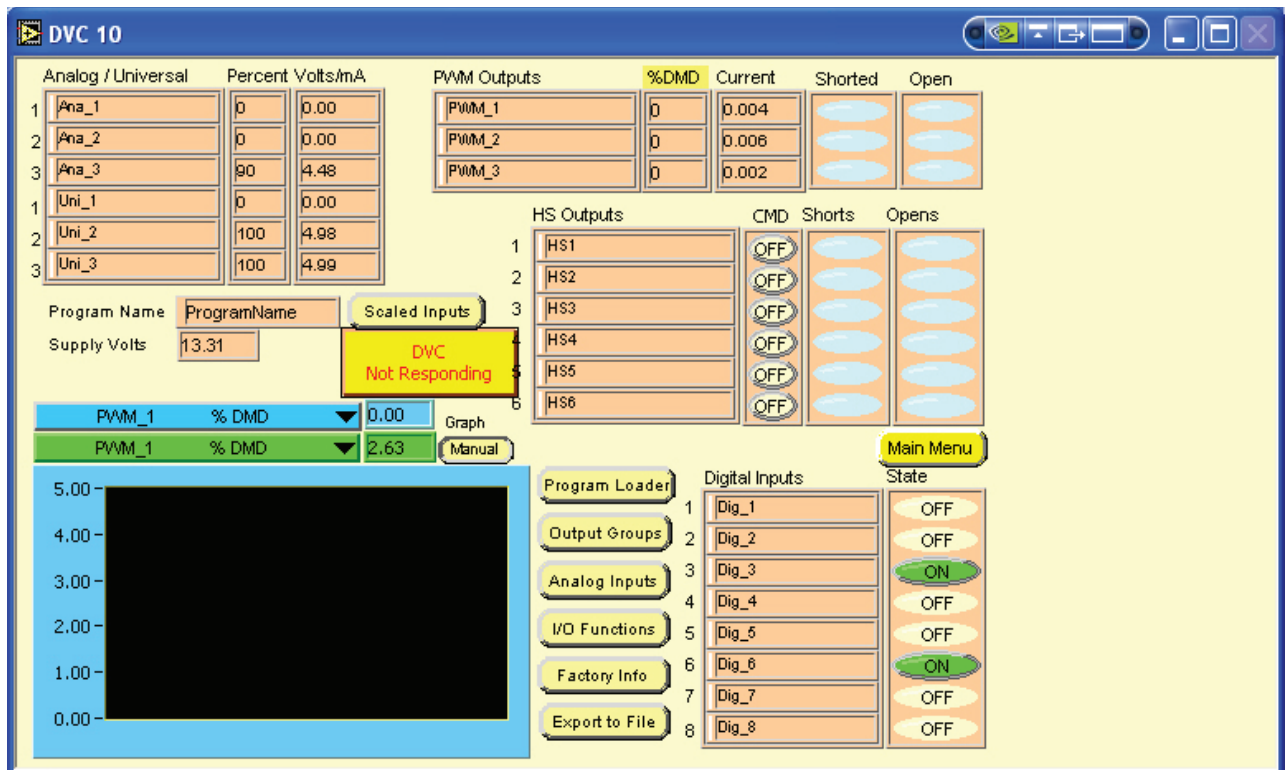

Figure 3-29
4. Within the Main DVC10 screen, select the Program Loader switch to open the Program Loader screen. Reference Figures 3-29, 3-30 below.
12. On the Main DVC10 screen, Figure 3-29, select the Factory Information switch.
2. Within the Main DVC10 screen, select the Program Loader switch to open the Program Loader screen. Reference Figures 3-29 and 3-30.